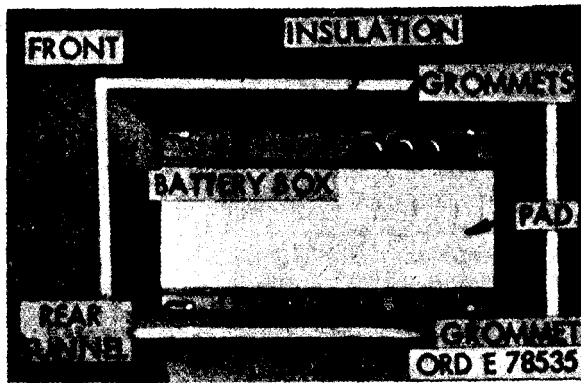

Figure 709. Battery box installation.
- (c) Paint floor area to be covered also, and lay barrier in place on vehicle floor, alining holes in barrier with holes in floor (fig. 709).
- (f) Place battery box assembly in place in cab and install three grommets in bottom of battery box (one in left rear hole, two in left and center front hole) (fig. 709) and place five pieces of insulation along bottom of box, trimming as necessary to provide free cable access to grommets holes.
- (1) Remove battery ground cable terminal clamp and pass cable up through rear left hole into battery box (fig. 709). Install terminal clamp.
- (2) Remove battery positive cable terminal clamp and pass positive cable up through front right hole; voltage regulator cable through center hole; and slave receptacle positive cable through front left hole (fig. 709). Connect regulator and battery positive cables to one side of clamp and slave receptacle cable to other side (fig. 713).
- (3) Hook four "J" bolts into the straps in bottom corners of battery box.
- (4) Place the four cables out of the way and install the vehicle batteries with positive terminals toward the front.
- (5) Position battery holddown frame over the batteries and "J" bolts and secure frame, using four flat washers MS 96906-27183-15, four split washers MS 96906-35337-027, and four nuts MS 96906-35690-605.